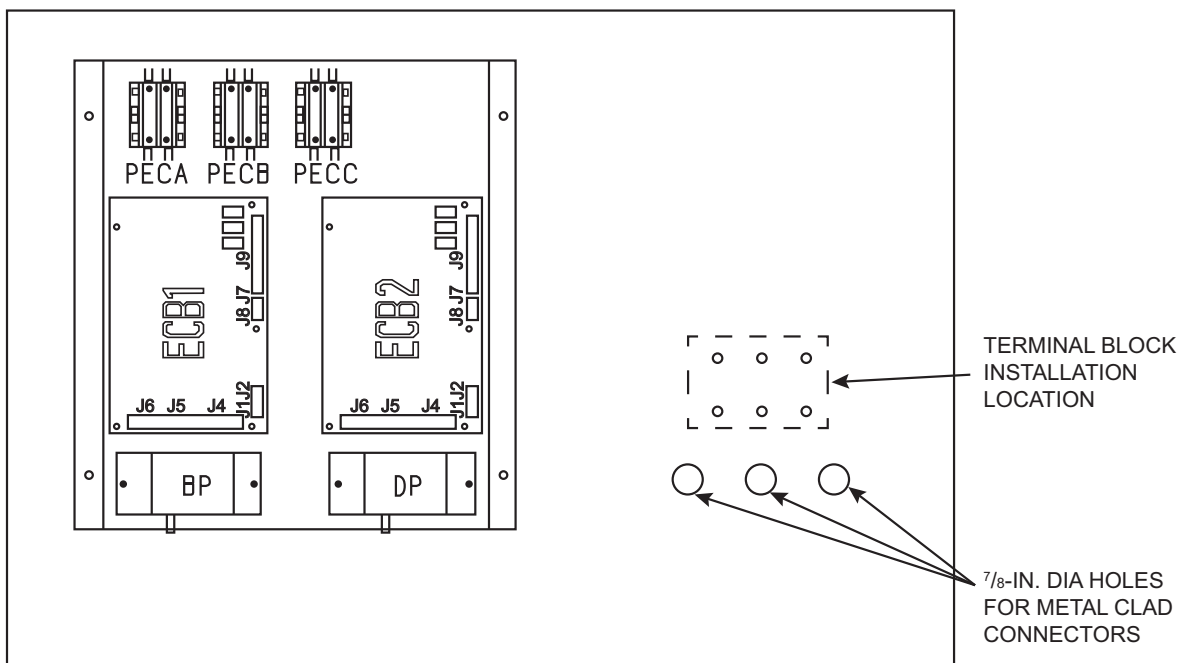

Fig. 3 — Auxiliary Control Box
4. Open the unit filter access door. Remove the panel below the filters that covers the auxiliary control panel. See Fig 2. Mount the auxiliary control panel terminal block in the auxiliary control box in the location shown in Fig 3.
5. Route the wires from the 20-ft long power exhaust control and power harnesses through the hole(s) in the auxiliary control panel. See Fig. 3. Secure the metal clad connector with the locknut.
5. Open the unit filter access door. Remove the panel below the filters that covers the auxiliary control panel. Mount the auxiliary control panel terminal block in the auxiliary control box in the location shown in Fig 3.
6. Route the wires from the 20-ft long power exhaust control and power harnesses through the hole(s) in the auxiliary control panel. See Fig. 3. Secure the metal clad connector with the locknut.